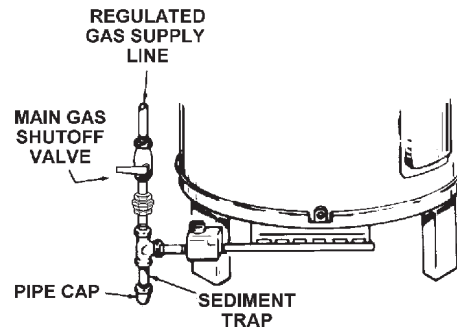

Figure 21. Gas Piping And Sediment Trap Installation
To trap any dirt or foreign material in the gas supply line, a sediment trap must be incorporated in the piping (see **Figure 21**). The sediment trap must be readily accessible and not subject to freezing conditions. Install in accordance with recommendations of serving gas suppliers. Refer to the latest version of the **National Fuel Gas Code ANSI Z223.1 / NFPA 54**.
1. For test pressures exceeding 1/2 psi (3.45 kPa), disconnect the water heater and its Main Gas Shutoff Valve from the gas supply piping system during testing. See *Figure 21*. The gas supply line must be capped when disconnected from the water heater.